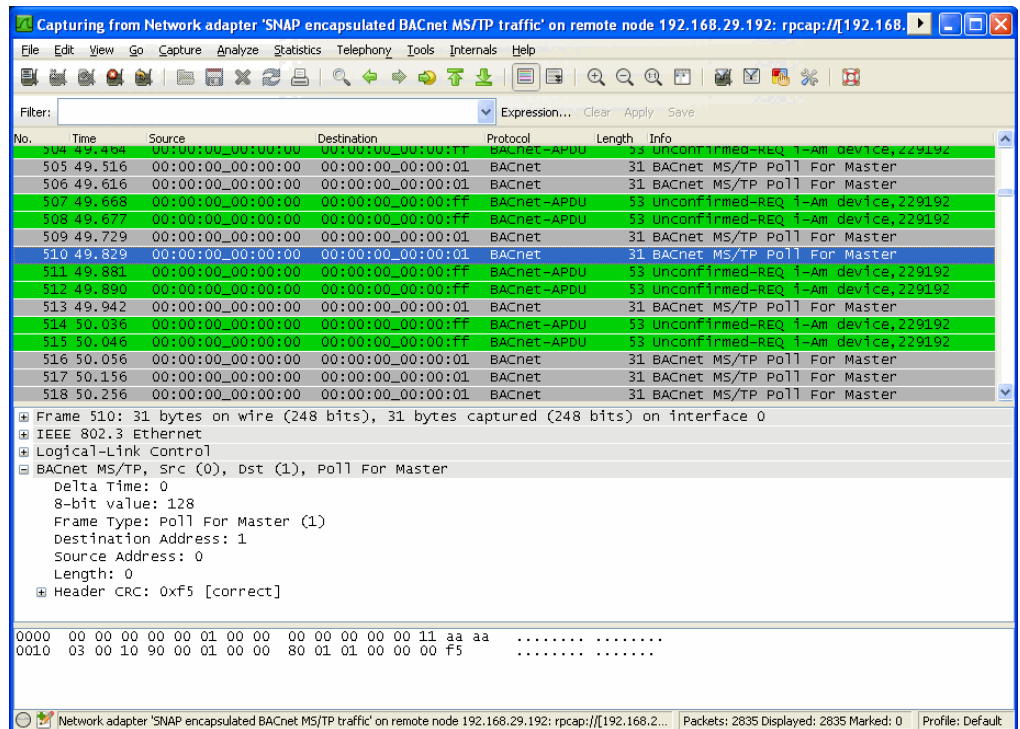

Figure 81: Example MS/TP remote capture in progress.
3. Wireshark will attempt to establish a connection to the device and, if successful, start displaying packets. An example capture is shown in Figure 81.